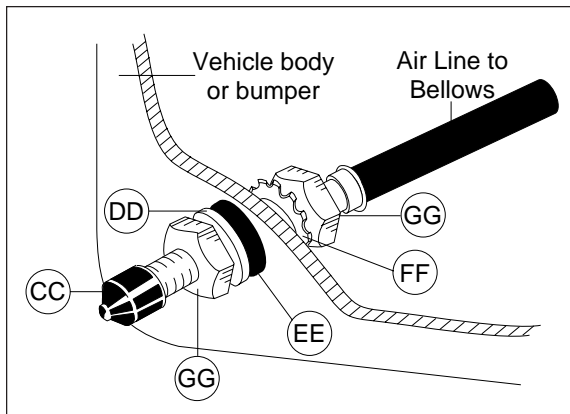

Figure 6
4. Place a $\frac{5}{16}$ " nut (GG) and a star washer (FF) on the air valve.
Leave enough of the inflation valve in front of the nut to extend through the hole and have room for the rubber washer (EE), flat washer (DD), and $\frac{5}{16}$ " nut (GG) and cap (CC). There should be enough valve exposed after installation - approximately $\frac{1}{2}$ " - to easily apply a pressure gauge or an air chuck (Figure 6).
5. Push the inflation valve through the hole and use the rubber washer (EE), flat washer (DD), and another $\frac{5}{16}$ " nut (GG) to secure it in place. Tighten the nuts to secure the assembly in place (Figure 6).
6. Route the air line along the frame to the air fitting on the air spring. Keep at least 6" of clearance between the air line and heat sources, such as the exhaust pipes, muffler, or catalytic converter. Avoid sharp bends and edges. Use the plastic tie straps (BB) to secure the air line to fixed, non-moving points along the chassis. Be sure that the tie straps are tight, but do not pinch the air line. Leave at least 2" of slack to allow for any movement that might pull on the air line.